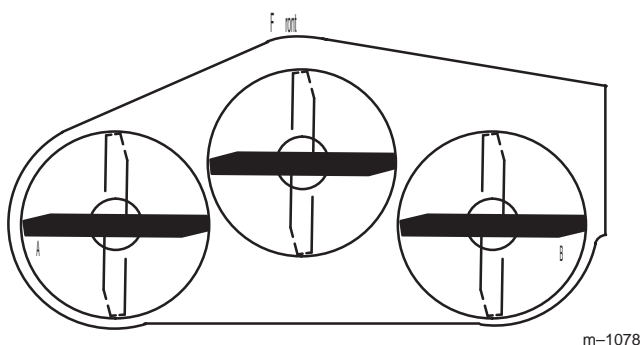

Figure 74
2. Position the blades side-to-side (Fig. 74). Measure at **A** and **B** locations (Fig. 74) from a level surface to the cutting edge of blade tips (Fig. 75).